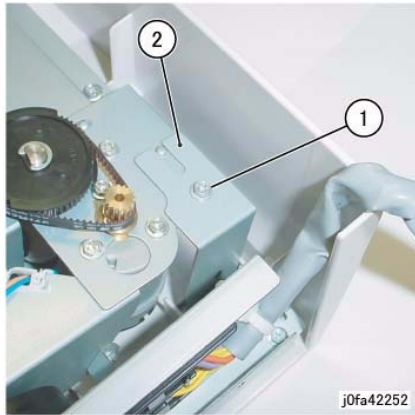

Figure 1 Removing the Rear Bracket
7. Remove the rear Bracket (Figure 1):